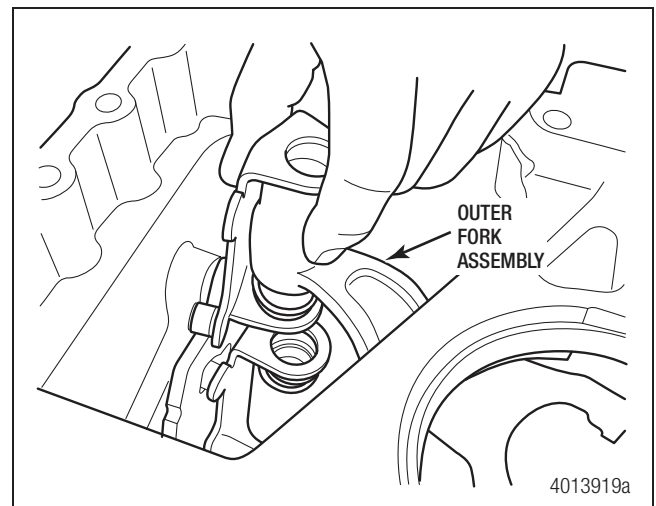

Figure 4.22
25. Rotate and remove the outer shift fork assembly from the housing. Figure 4.22.